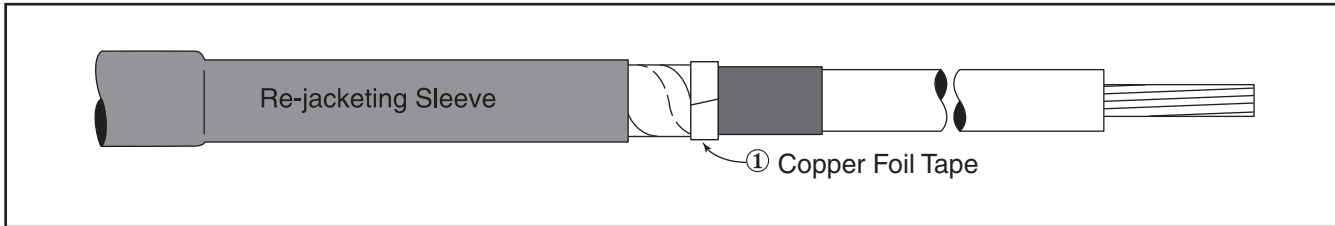

Figure 10
5.2 Secure cable copper tape shield ends with copper foil tape (Figure 10).